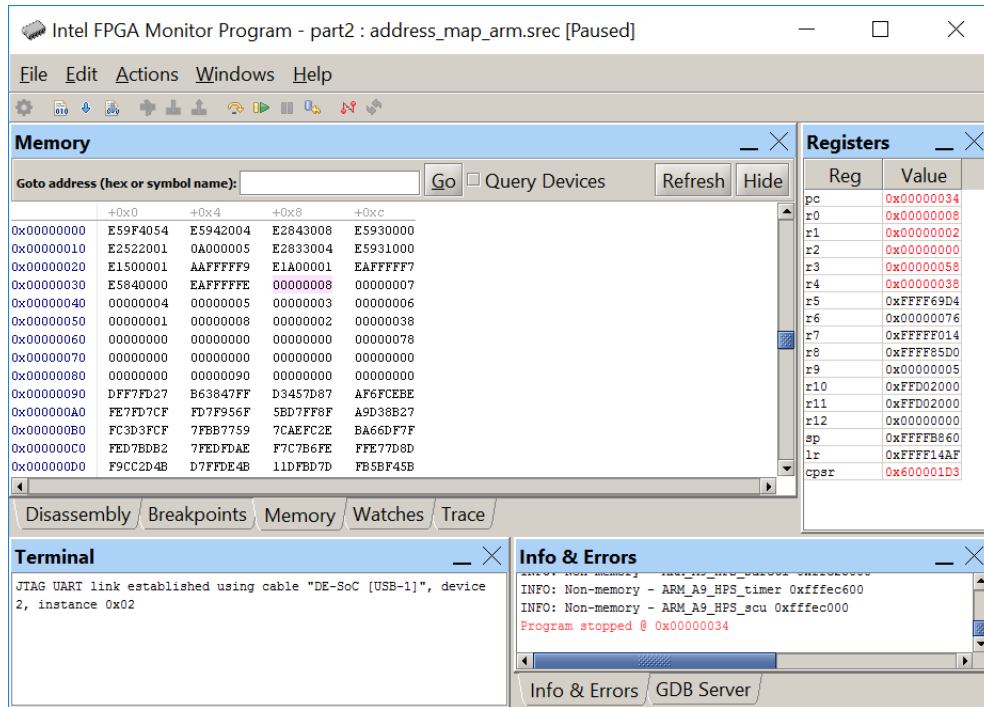

Figure 12: Displaying the result in the memory tab.
5. Execute the program. When the code is running, you will not be able to see any changes (such as the contents of registers or memory locations) in the Monitor Program window, because the Monitor Program cannot communicate with the ARM processor while code is being executed. But, if you pause the program then the Monitor Program window will be updated. Pause the program using the icon  and observe that the processor stops within the endless loop **END: B END**. Note that the largest number found in the sample list is 8 as indicated by the contents of register R0. This result is also stored in memory at the label RESULT. As discussed above, the address of the label RESULT for this program is 0x00000038. Use the Monitor Program's Memory tab, as illustrated in Figure 12, to verify that the resulting value 8 is stored in the correct location.